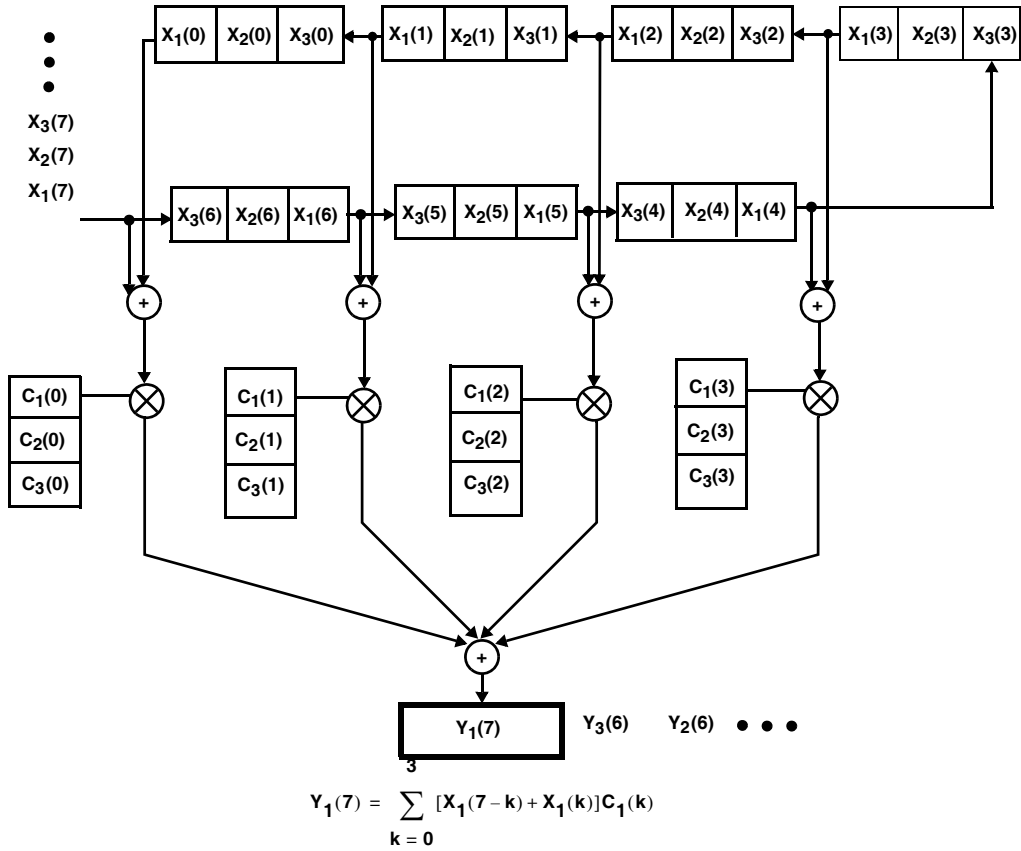

FIGURE 2A. SYMMETRIC MULTI-CHANNEL DATA FLOW DIAGRAM STEP 1
In the following example, the number of channels being filtered (N) is 3. The input samples from each channel are multiplexed into one stream before entering the HSP43168. Figures 2A, 2B and 2C show the internal data flow diagram of the symmetric multi-channel filtering application for the HSP43168. MUX1-0 was set to FIR A output mode (10) so only one FIR filter cell is shown in the internal data flow diagram.